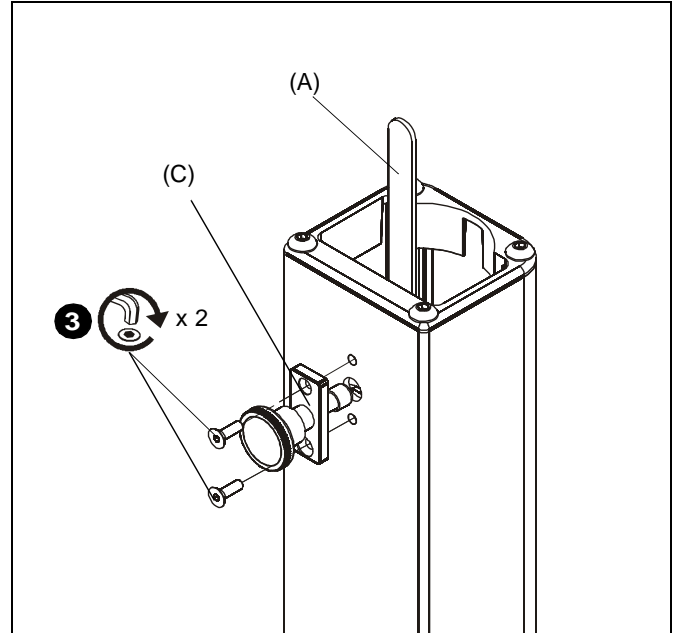

Figure 6
1. Insert new smit pin into pin hole on back of cart/stand. (See Figure 6)
3. Use cart knob removal wrench (A) to hold hex nuts in place while tightening screws with 1/8" hex key. (See Figure 6)